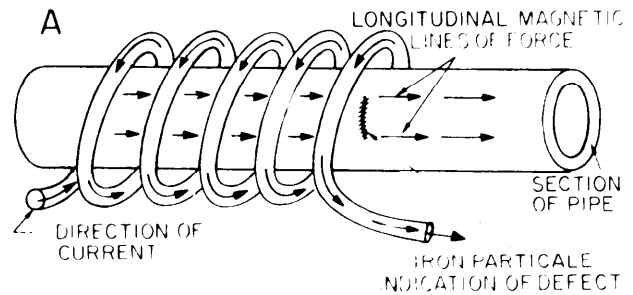

Figure 11-8.—Longitudinal magnetization—coil method.
The test piece may be magnetized either by passing an electric current through it, as shown in view A of figure 11-7, or by passing an electric current through a coil of wire that surrounds the test piece, as shown in view B of figure 11-8. When an electric current flows in a straight line from one contact point to the other, magnetic lines of force are in a circular direction, as shown in view A of figure 11-7. When the current flow is through a coil around the test piece, the magnetic lines of force are longitudinal through the test piece. In order for a defect to show up as a disturbance in the pattern of the iron particles, the direction of the magnetic field must be close to a right angle to the major axis of the defect. Since the orientation of the defect is unknown, a minimum of two current directions must be used during the test. In figure 11-7, circular magnetism is induced in the test piece so that the piece may be inspected for lengthwise cracks. Longitudinal magnetism (fig. 11-8) is induced so that the piece may be inspected for transverse cracks. In general, magnetic particle inspection is satisfactory for detecting surface cracks and subsurface cracks that are not more than 1/4 inch below the surface.
- View B of figure 11-8 shows a flexible cable wrapped around the work. This forms a coil which, with the passage of current, induces longitudinal magnetism in the part of the workpiece that is surrounded by the coiled cable.